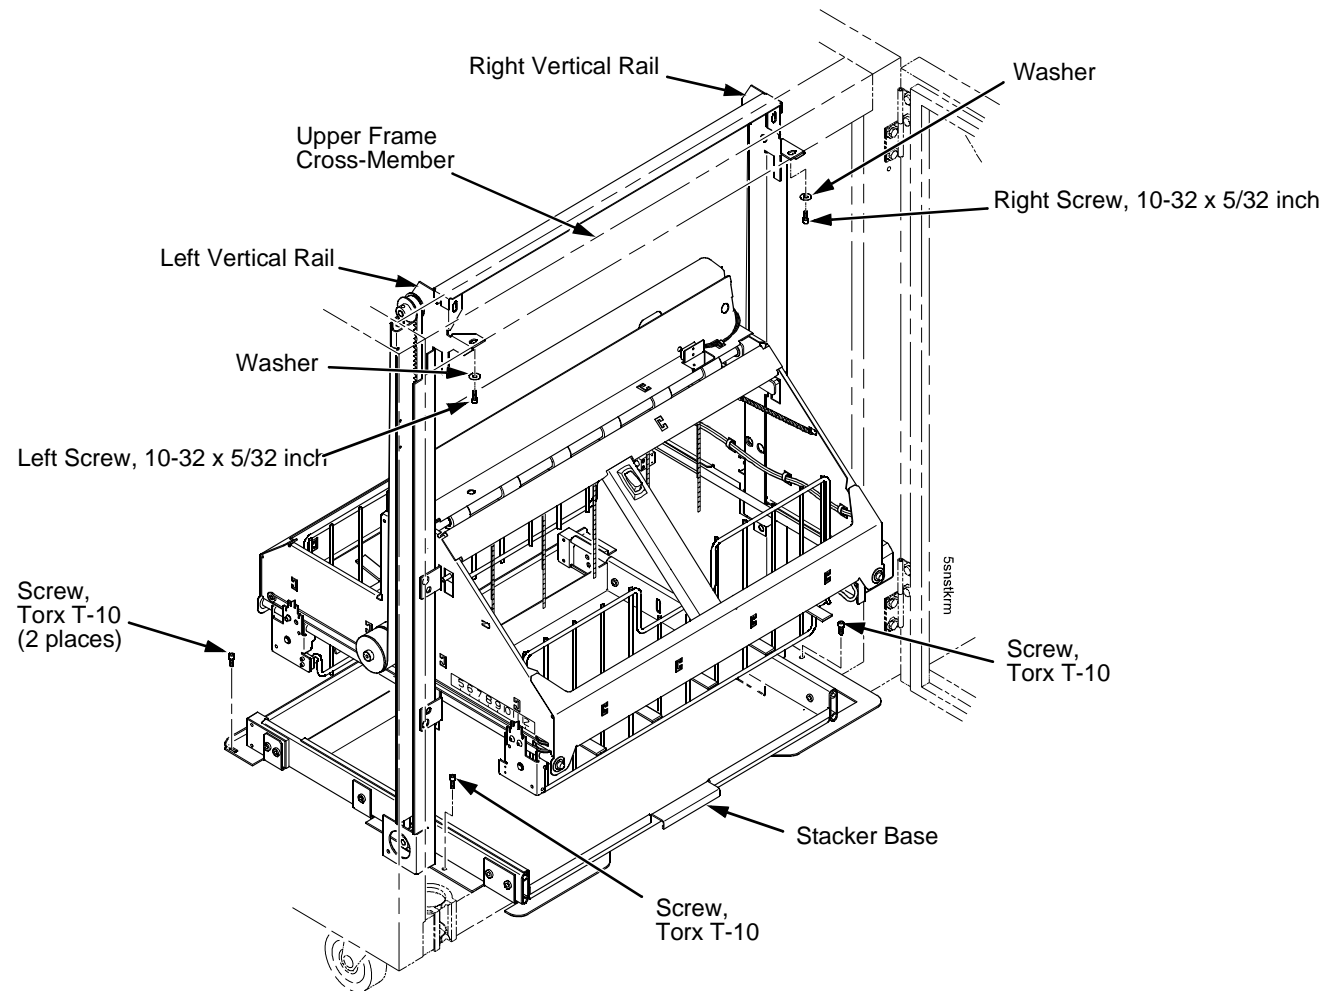

Figure 80. This figure shows which screws to remove to prepare the stacker for removal from the cabinet.
8. Remove the two 10-32 x 5/32 inch buttonhead screws and washers securing the vertical rails to the upper frame cross-member at the rear of the cabinet. (Figure 80.)
9. Remove the two Torx T-10 screws securing the stacker base to the cabinet floor. (Figure 80.)
10. Remove the two Torx T-10 screws that secure the rail bracket to the cabinet floor. (Figure 80.)